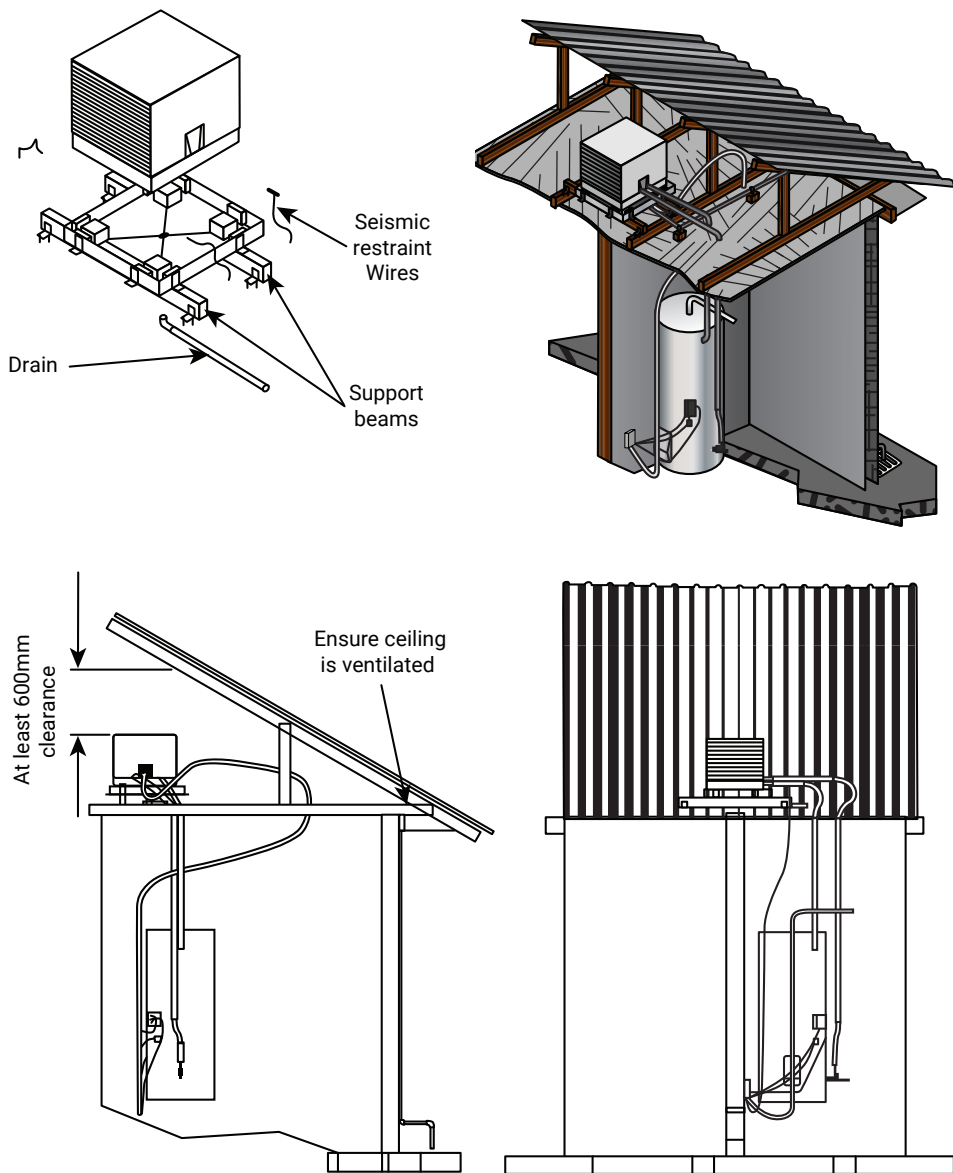

Figure 3: Typical Installation Detail—Roof Cavity
- Figure 3: Typical Installation Detail—Roof Cavity 15*